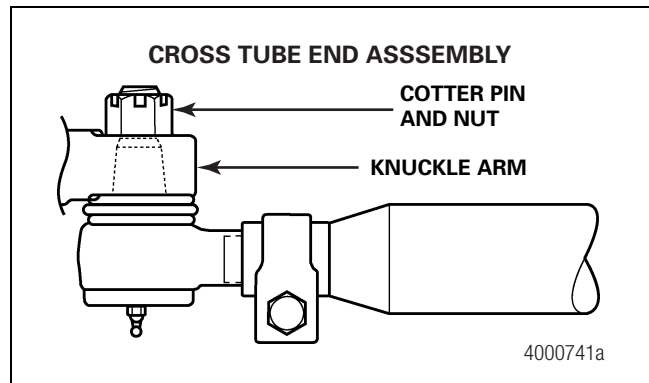

Figure 4.5
2. Remove the cross tube, tie rod, cotter pin and nut to disassemble the cross tube from the knuckle arm. Figure 4.5.